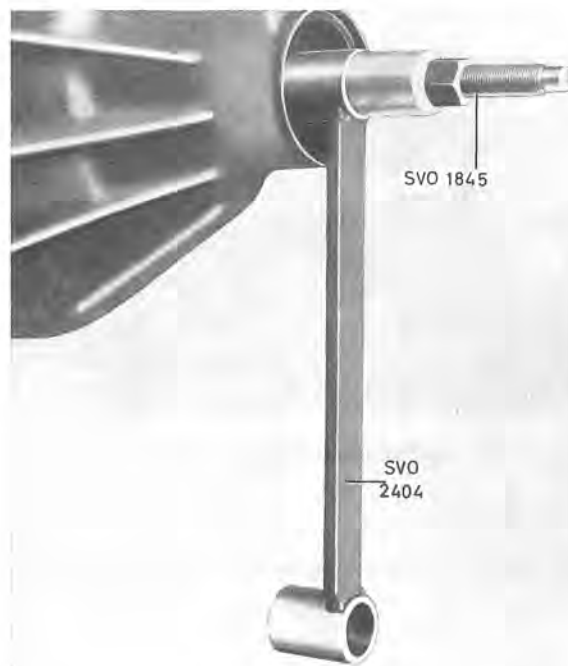

Fig. 4-163. Installing pinion
5. Insert the pinion in the casing and fit on three 0.75 mm (0.03") thick shims and the front pinion bearing. Fit tool 2404 and press tool 1845 on the front end of the pinion and pull in the pinion, see Fig. 4-163. Apply the nut tightener until it must press the pinion forwards so that it does not strike against the bearing positions.